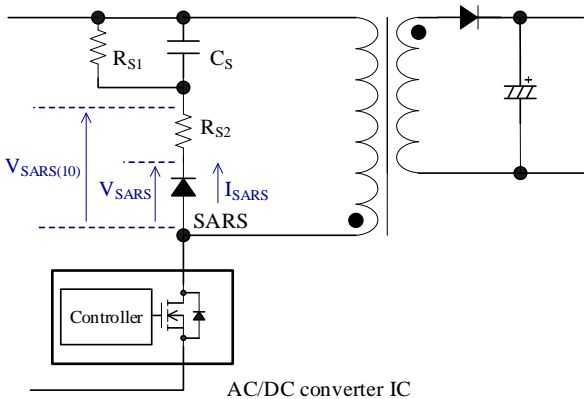
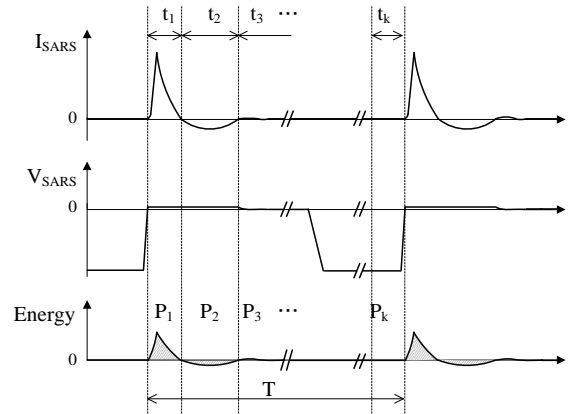

Figure 30. Typical Application
Figure 31. SARS Current
Figure 30 shows a typical application using the SARS. Figure 31 shows the operating waveforms of the SARS.
- 2) The each average energy ($P_1, P_2 \dots P_k$) is measured at period of each polarity of $V_{SARS} \times I_{SARS}$ ($t_1, t_2, \dots t_k$) as shown in Figure 30 by the automatic measurement function of the oscilloscope.
- 3) The power dissipation of the SARS, P_{SARS} , is calculated by Equation (1):